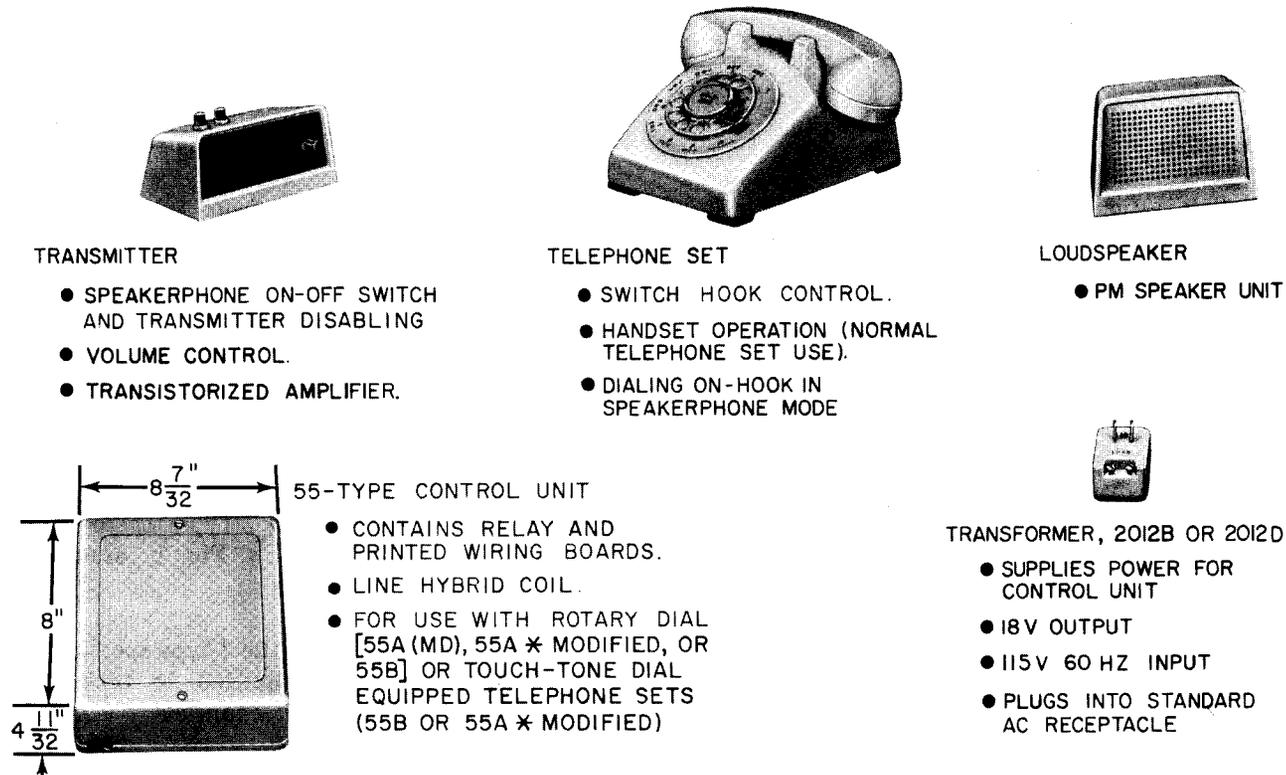

Fig. 1—Typical 3-Type Speakerphone System, Basic Components
2.02 Components of the 3-type speakerphone system are shown in Fig. 1, along with features of each component.